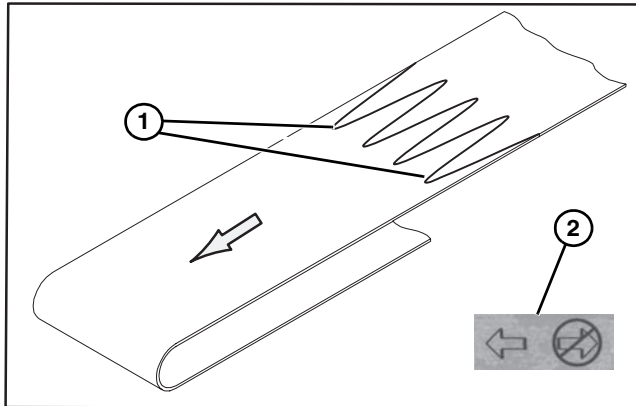

Figure 30
2. Orient belt so splice leading fingers (Figure 30, item 1) point in the direction of belt travel as identified by the conveyor directional label (Figure 30, item 2).